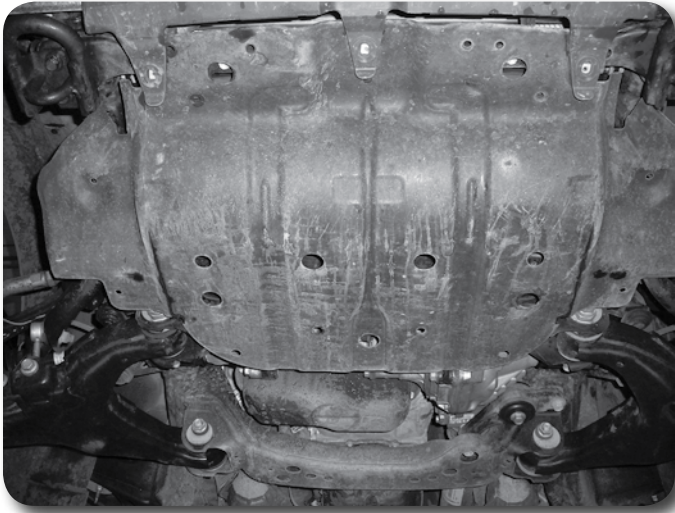

Figure 1
4. Locate and remove the front factory skid plate **Figure 1**. The skid plate and hardware will not be reused.